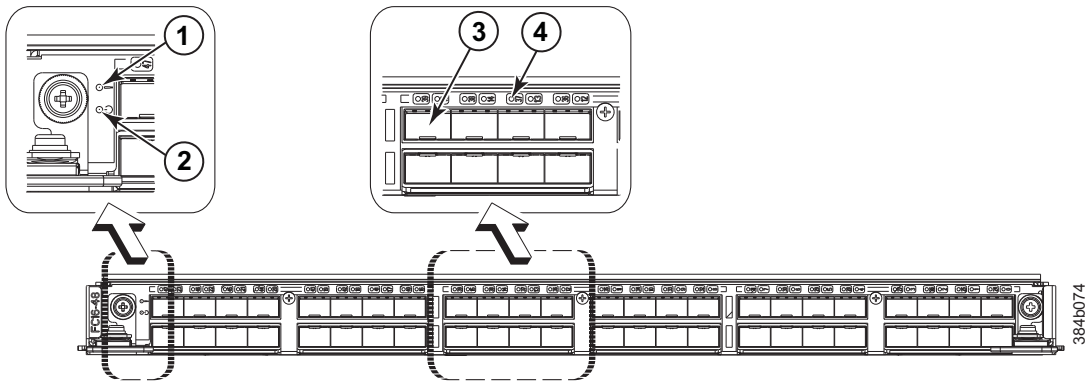

Figure 22. FC16-48 port blade
- Figure 22 on page 60 illustrates the FC16-48 port blade